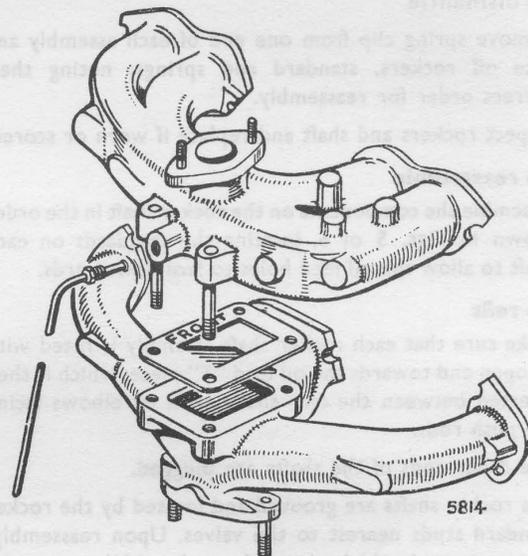

Fig. 17. Inlet and exhaust manifolds—cast-iron cylinder heads.
- This deflector is marked FRONT and must be fitted as shown in Fig. 17.